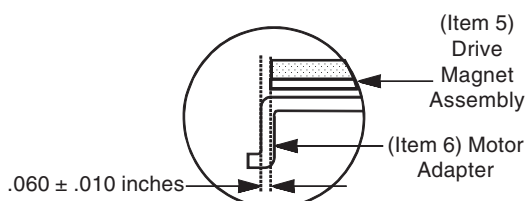

Figure 1
4. Remove drive magnet assembly (Item 5) from box and slide assembly onto motor shaft making sure shaft key (Item 12) is in place. Installation dimension is  $.060 \pm .010$  inches as shown in Figure 1. Tighten 2 set screws, Item 5A.